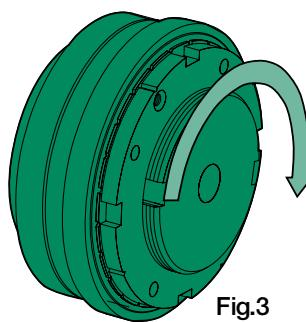

Fig.3
Insert wrench (A) into the seats (B) or the wrench (C) into the holes (D) and turn the nut clockwise up to the end of the stroke (fig.3).